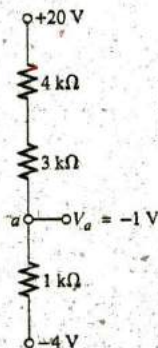

FIG. 6.116
47. a. The voltage V_a for the network in Fig. 6.116 is -1 V. If it suddenly jumped to 20 V, what could have happened to the circuit structure? Localize the problem area.